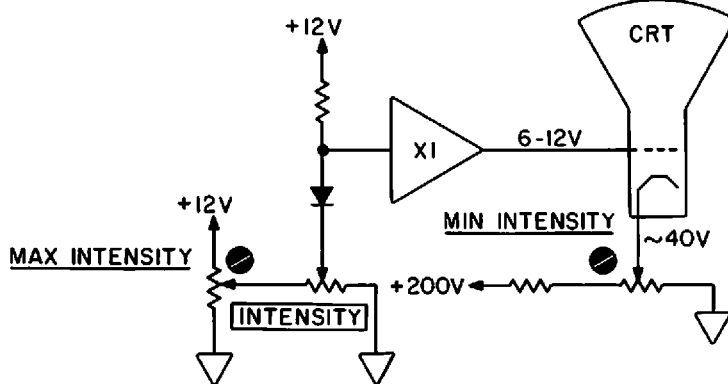

Figure 2-26
2.3.6.3 Intensity Driver (Figure 2-26)